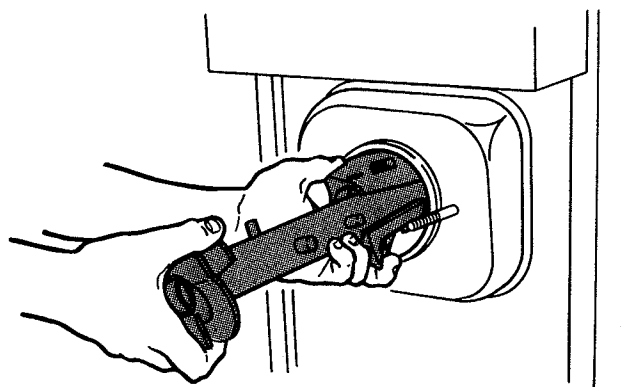

Figure 45. Auger Assembly Installation
- I. Install two flights onto pins at rear of auger. Squeeze the two flights as the auger assembly is slid into the freezer barrel. (See Fig. 45.)